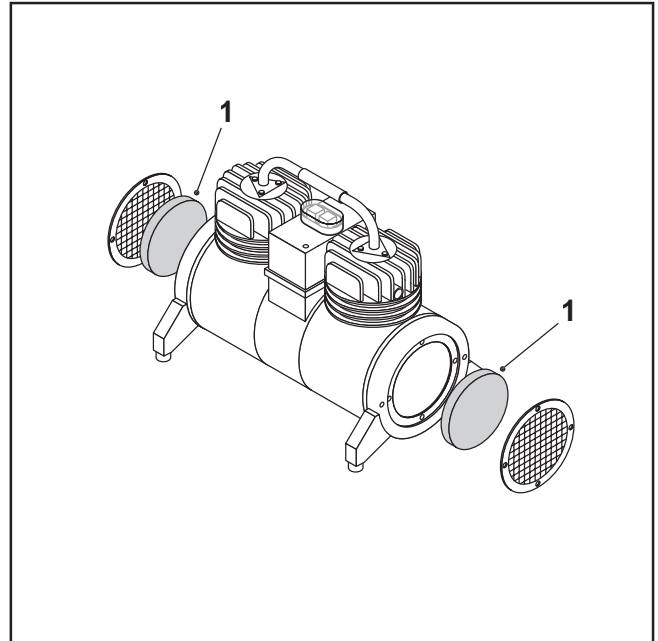

FIG.39
- Check that the compressor air filters (FIG.39-REF.1) are clean.
- Replace the compressor air filters (FIG.39-REF.1).